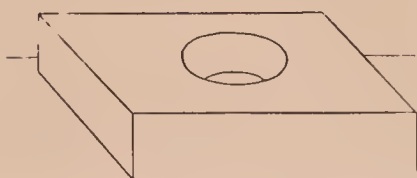
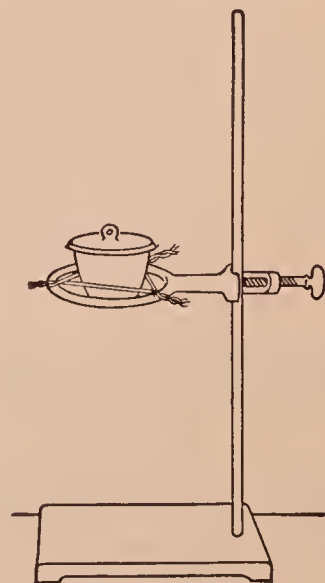

FIG. 8. — Block for carrying a crucible
FIG. 9. — Covered crucible on a triangle
**APPARATUS.** — Crucible block (Fig. 8), crucible (Fig. 9), balance, weights, triangle, iron stand and ring.
Clean and dry a porcelain crucible and cover. Place the covered crucible on the crucible block (Fig. 8), and carry it to the balance (or scales); always use this block in carrying the crucible to and from the balance (or scales). Weigh the covered crucible (ask for directions or follow directions in APPENDIX, § 8). Enter the weight in the RECORD.
Place the covered crucible on the triangle supported by a ring on an iron stand as shown in Fig. 9. Heat gently with a low flame for a minute or two, then increase the heat until the flame is just above the middle of the crucible. Heat for about fifteen minutes. Occasionally lift the cover for an instant by grasping the ring firmly with the forceps.